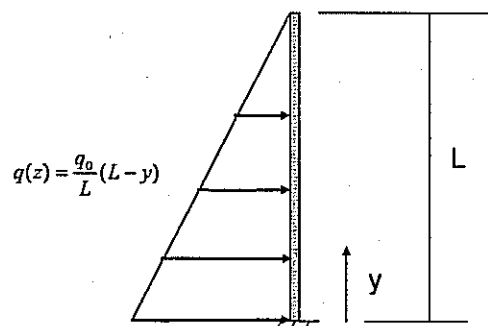

Figure Q2.
2. An uniform cantilever structure shown in Figure Q2 is a part of a support structure for a chimney. Due to the wind the cantilever structure is subjected to a load /unit length of $q(z) = \frac{q_0}{L}(L - y)$